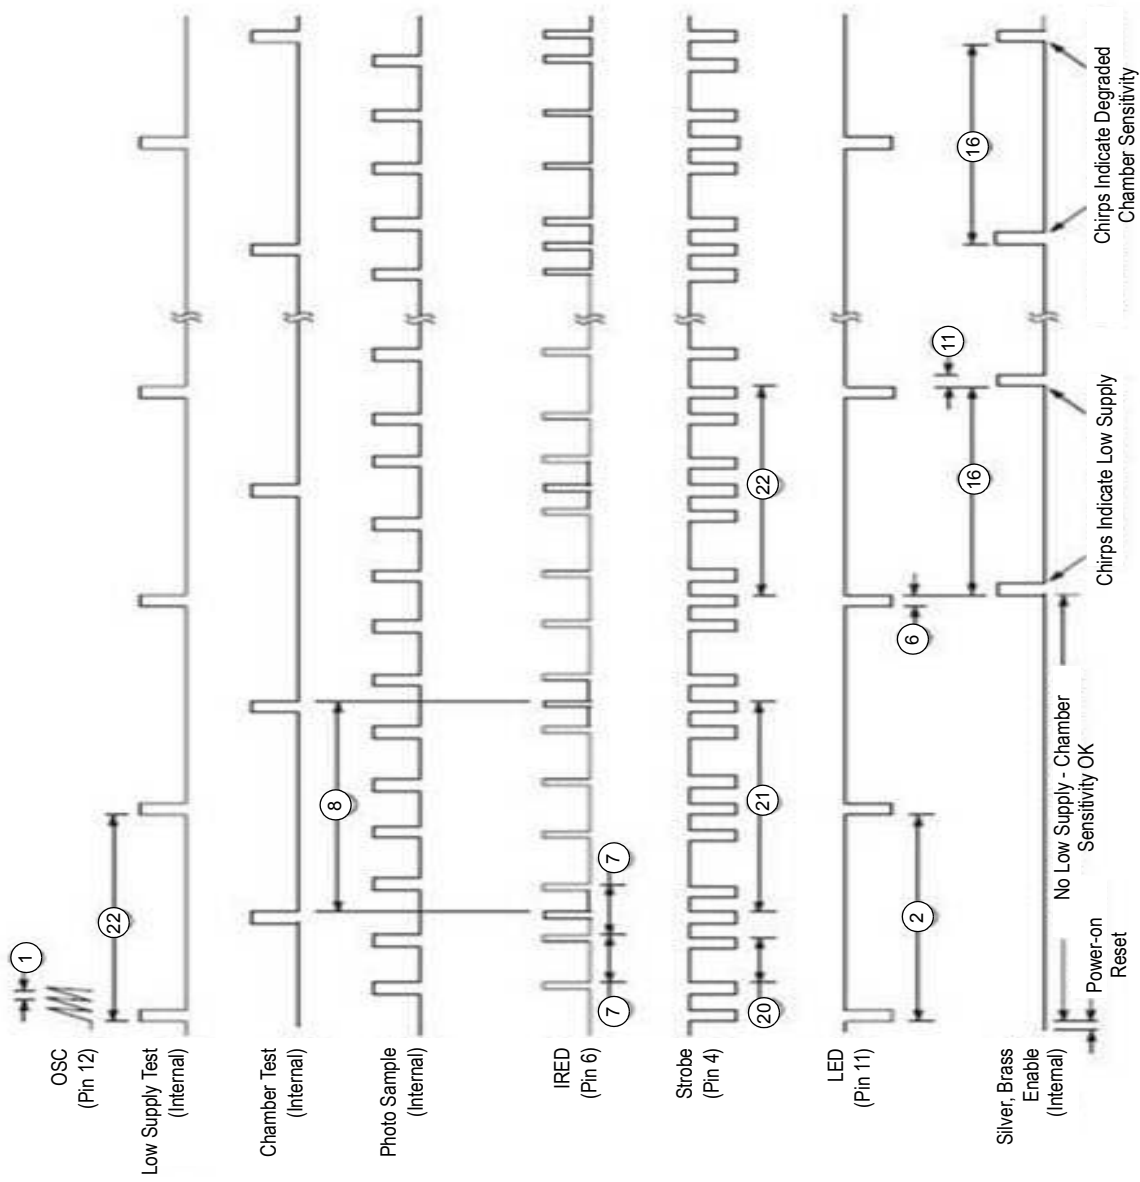
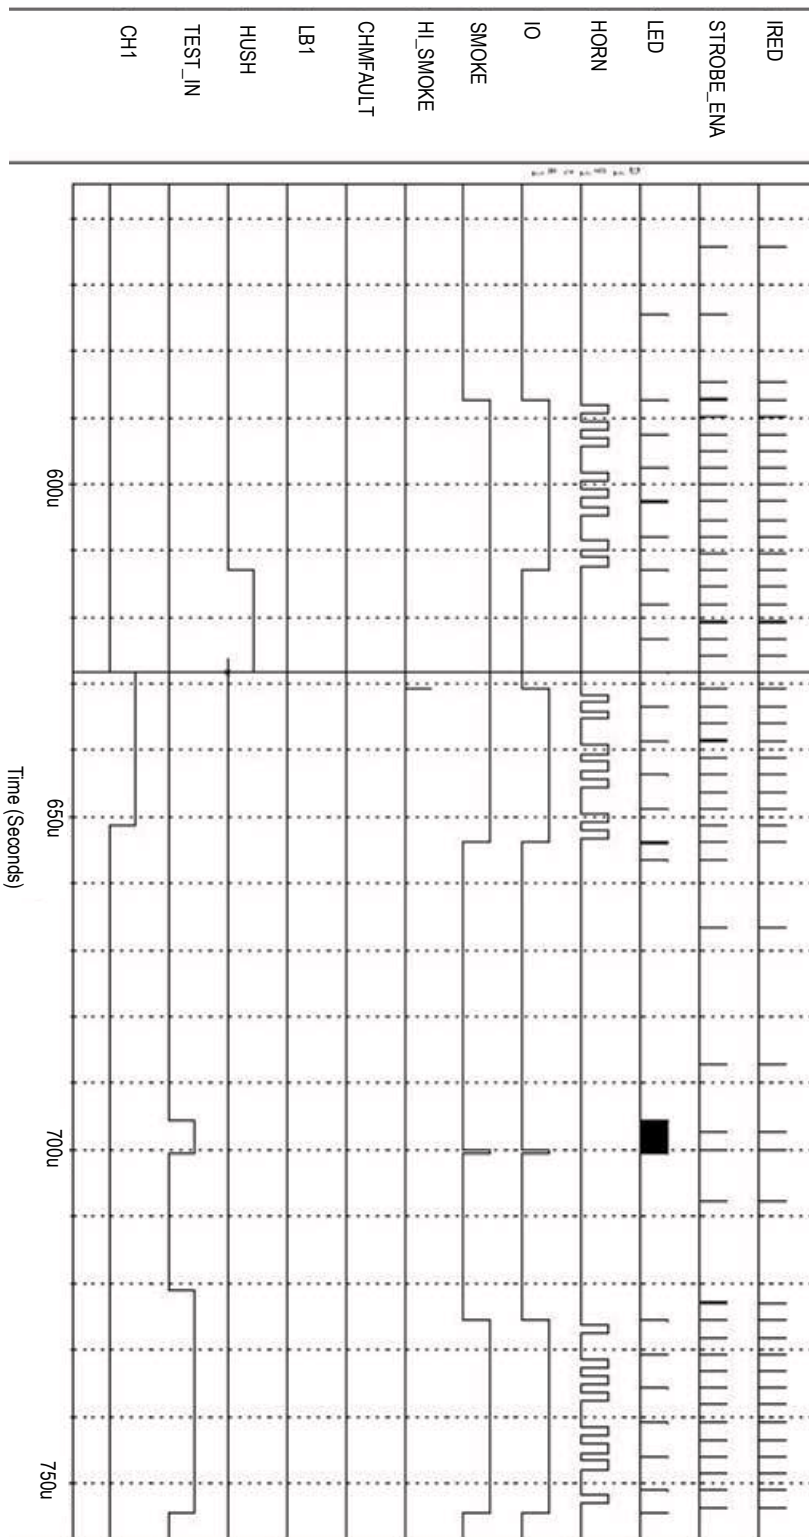
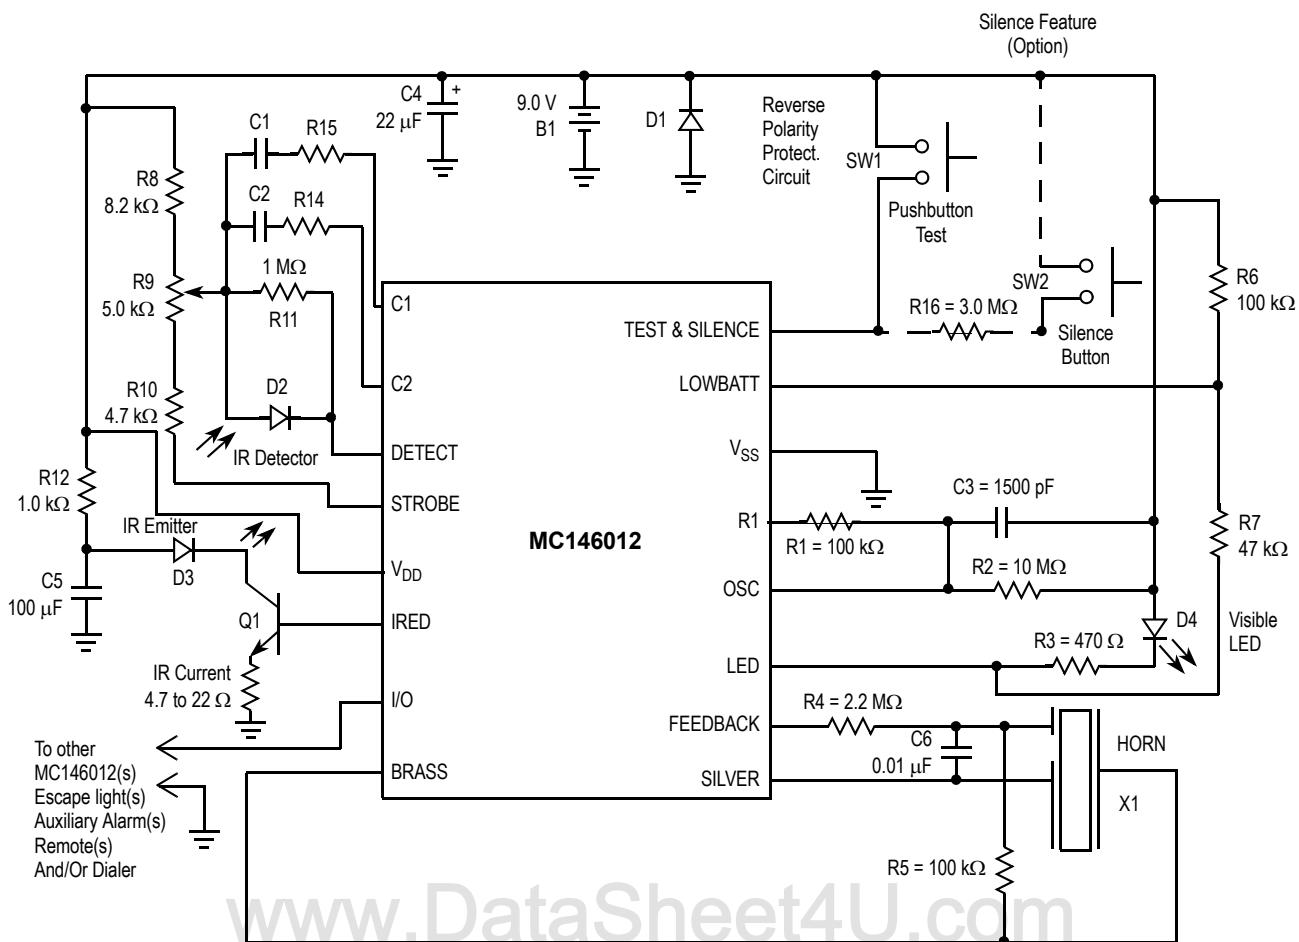

Figure 3. Typical Standby Timing Diagram MC146012 Device
Figure 4. Typical Local Smoke Timing MC146012 Device
Figure 5. Typical Battery Powered Application
| I_{DD} | Average Operating Supply Current (per Package) (Does not include Current through D3-IR Emitter) | Standby Configured per Figure 5 | — — | 12 9.0 | — — | 9.0 7.0 | μ A |
| I_{DD} | Peak Supply Current (per Package) (Does not include IRED Current into base of Q1) | During Strobe On, IRED Off Configured per Figure 5 During Strobe On, IRED On Configured per Figure 5 | — — | 12 12 | — — | 1.25 2.5 | mA |
* $T_A = 25^\circ\text{C}$ Only**Table 3. AC Electrical Characteristics** (Refer to Timing Diagram Figure 3 and Figure 4. $T_A = 25^\circ\text{C}$, $V_{DD} = 9.0\text{ V}$, Component Values from Figure 5.)
Table 3. AC Electrical Characteristics (Refer to Timing Diagram Figure 3 and Figure 4. $T_A = 25^\circ\text{C}$, $V_{DD} = 9.0\text{ V}$, Component Values from Figure 5.) (continued)
A capacitor connected to this pin as shown in Figure 5 determines the gain of the on-chip photo amplifier during pushbutton test and chamber sensitivity test (high gain). The capacitor value is chosen such that the alarm tripped from background reflections in the chamber during pushbutton test.
A capacitor connected to this pin as shown in Figure 5 determines the gain of the on-chip photo amplifier during pushbutton test and chamber sensitivity tests.
The Detect input must be ac/dc decoupled from all other signals, V_{DD} and V_{SS} . Lead length and/or foil traces to this pin must be minimized also. See Figure 3.
The LED also provides a visual indication of the detector status as follows, assuming the component values shown in Figure 4:
In the Calibration mode, the IRED pulse rate is increased. An IRED pulse occurs every clock cycle. Also, Strobe is always Active Low. It is recommended to short R12 (Figure 5) in this mode. This will allow for a similar recovery of the emitter circuitry as in normal operation. Pin 1, pin 2, and pin 12 should be buffered with a unity gain amplifier to measure their outputs.